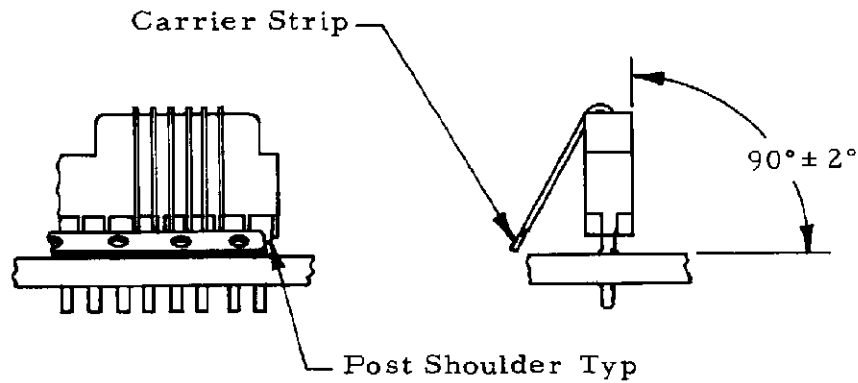

Figure 3
- A. Insert formed terminal block into printed circuit board, using insertion tool PN 231044-1, until post shoulders bottom on printed circuit board and align as indicated in Figure 3.